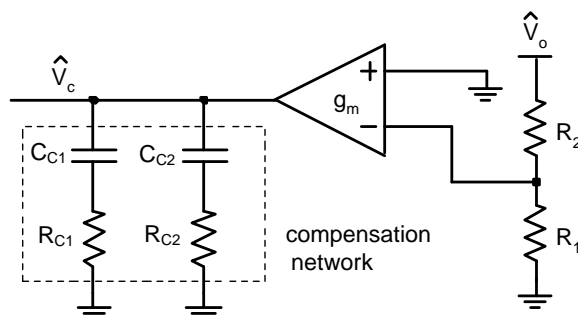

Figure 19. Compensation Network
- 1 and R_2 are the feedback resistors as shown in Figure 19
The compensation network (Figure 19) will also introduce a low frequency pole which will be close to 0Hz.
A second pole should also be placed at f_z . This pole can be created with a single capacitor C_{c2} and a shorted R_{c2} (see Figure 19). The minimum value for this capacitor can be calculated by: